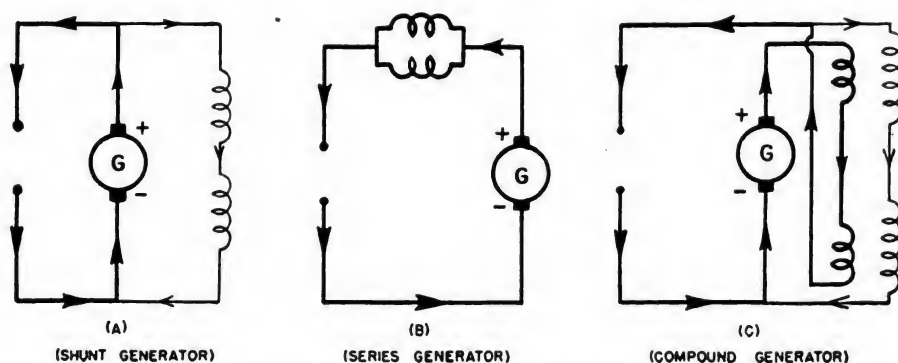

Figure 137.—Types of generators.
In (*A*) of figure 137, you see the connections used for the SHUNT generator. The field windings are in series. But the entire field is parallel or shunted across the armature circuit. The diagram indicates the paths taken by the field and armature currents. This type of generator is used in Naval aircraft almost exclusively.
In (*B*) of figure 137, you see the connections used in the SERIES generator. The field windings
The COMPOUND generator in (C) of figure 137 uses both series and shunt windings. In the case of the shunt generator, the terminal voltage of the generator drops when the load increases, because the increase in current causes an increase in the IR drop inside the armature. The compound